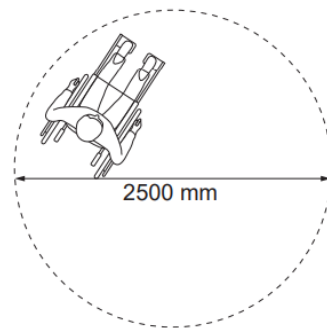

Figure 62: 360° Turning Space
- Minimum 2500 mm in diameter (Figure 62)